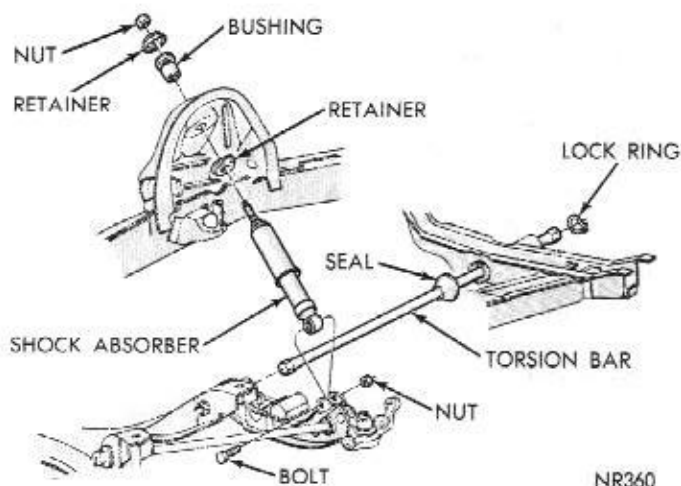
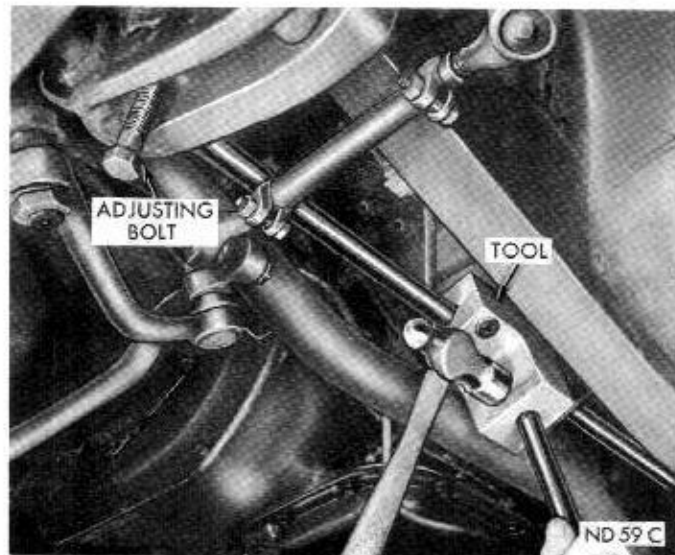

Fig. 4—Torsion Bar
Fig. 5—Removing Torsion Bar
- (1) Remove upper control arm rebound bumper.
- (2) If vehicle is to be raised on a hoist, make sure it is lifted on body only so that front suspension is in full rebound (under no load). If vehicle is to be raised on jacks, placed under center of crossmember it will be necessary that, a support first be placed between the crossmember and the jack.
- (3) Release all load from torsion bar (Fig. 4) by turning anchor adjusting bolt (Fig. 5) counterclockwise.
- (4) Remove lock ring from torsion bar rear anchor (Fig. 4).
- (5) Using Tool C-3728, remove torsion bar (Fig. 5) from its anchors. It is advisable to place Tool C-3728